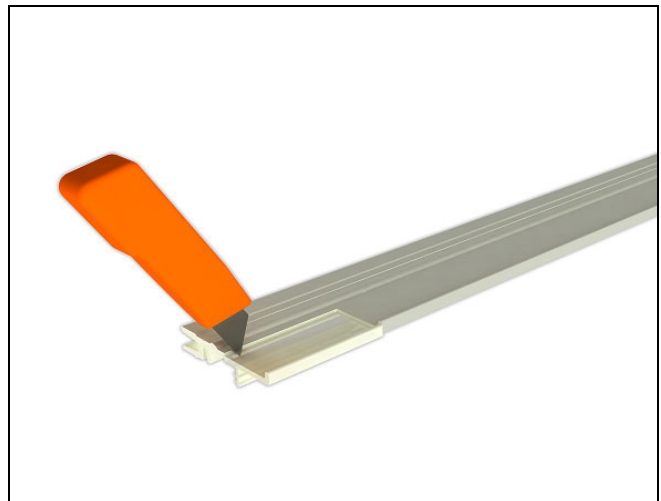

Figure 2
2. Using a square and pencil, mark the 1 1/2" x 3/4" notch and remove material. See Figure 2.